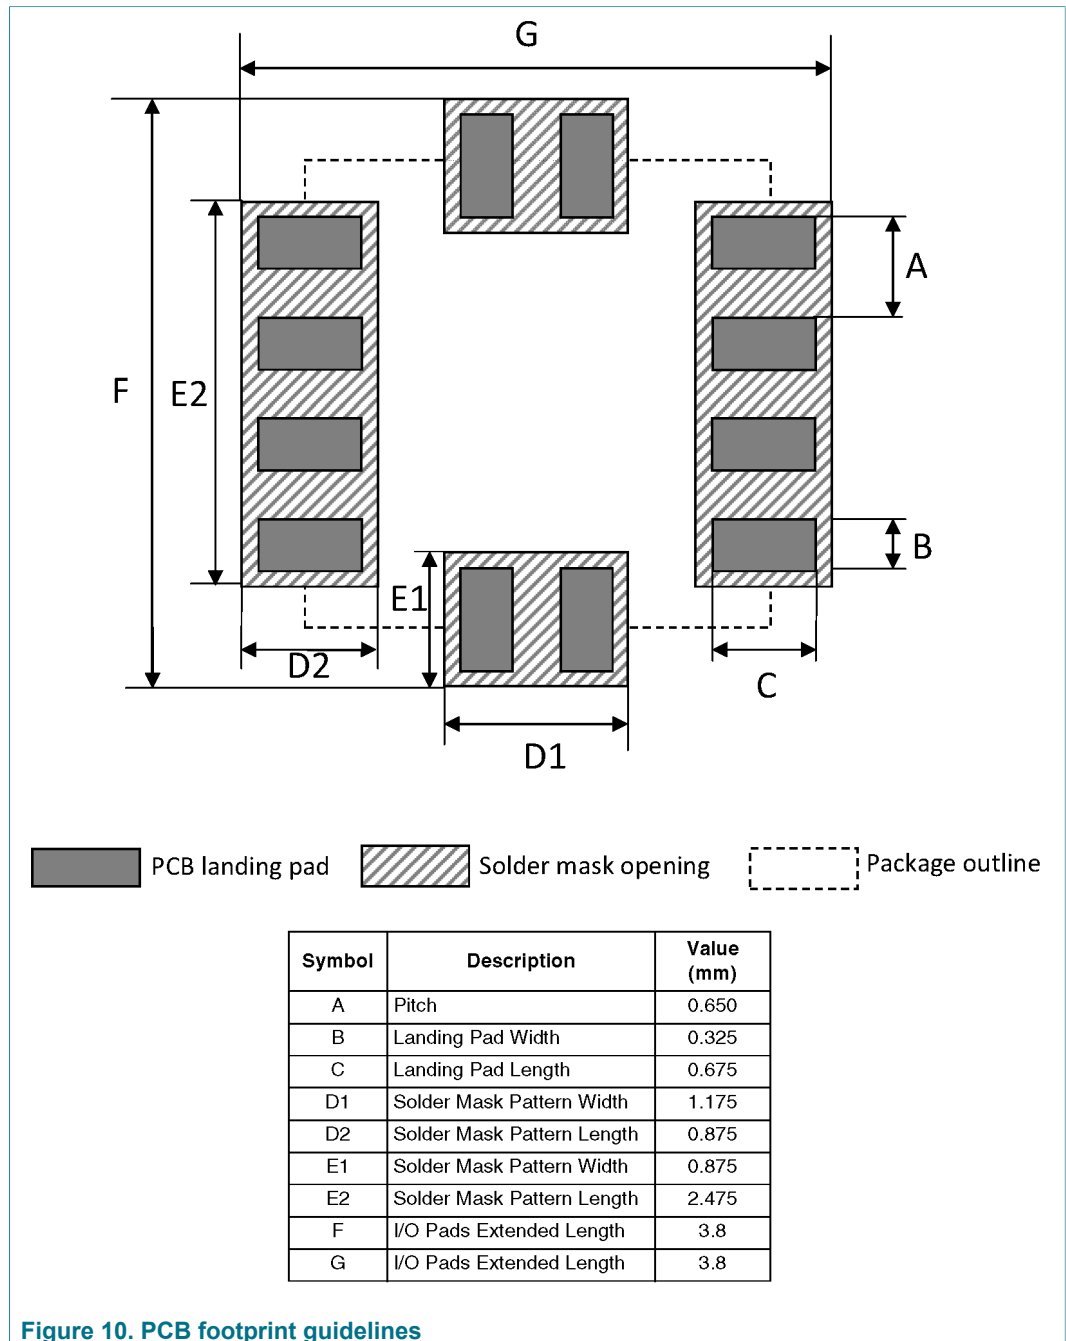

Figure 10. PCB footprint guidelines
- PCB landing pad is 0.675 mm x 0.325 mm as shown in Figure 10.
- The solder mask should not cover any of the PCB landing pads, as shown in Figure 10.